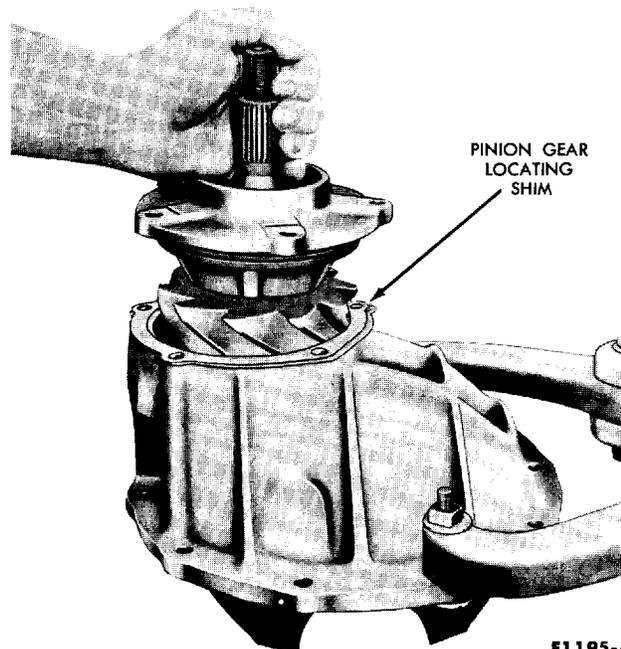

FIG. 28—Pinion and Retainer Installation
4. Place the proper shim on the carrier housing and install the pinion and retainer (Fig. 28).